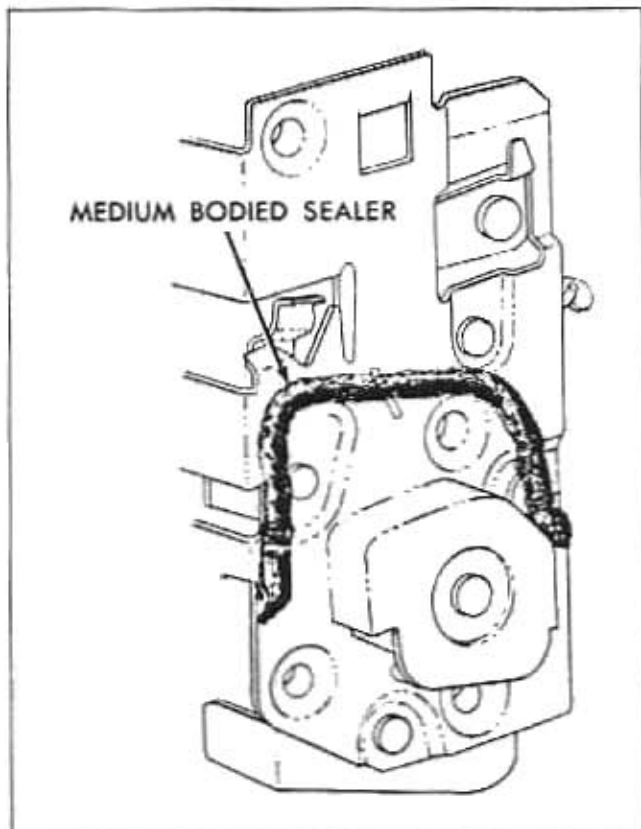

Fig. 2-19 Front Door Lock Sealing
5. To install, reverse removal procedure. Prior to installation of lock assembly on 11, 37 and 67 styles, apply a ribbon of medium bodied sealer (approximately $\frac{1}{4}$ " in diameter) across face of lock frame. Check all for proper operation, and where loosened, adjust glass run channel for proper alignment prior to installing inner panel water deflector (Fig. 2-19).